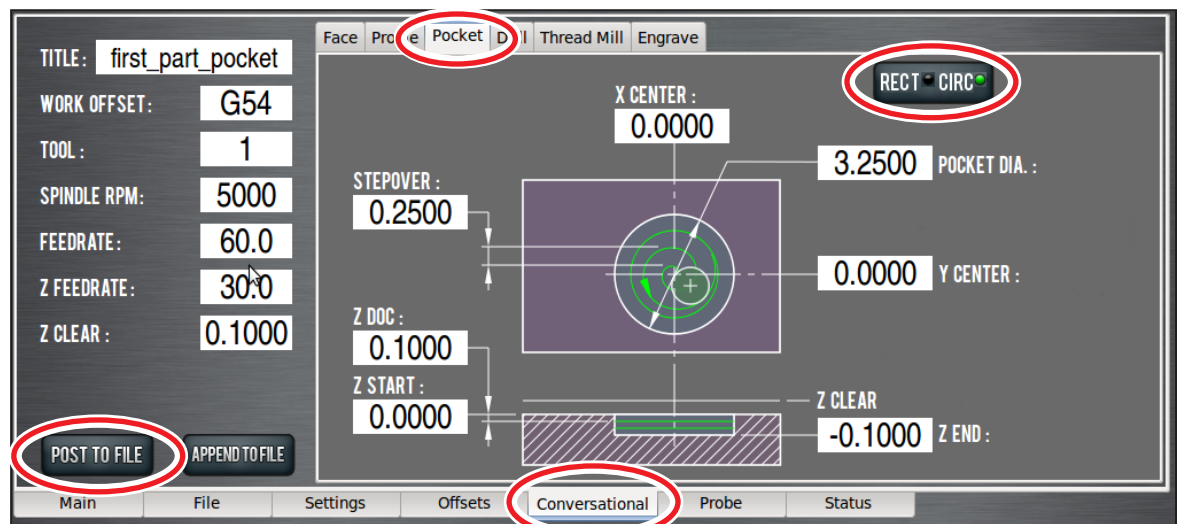
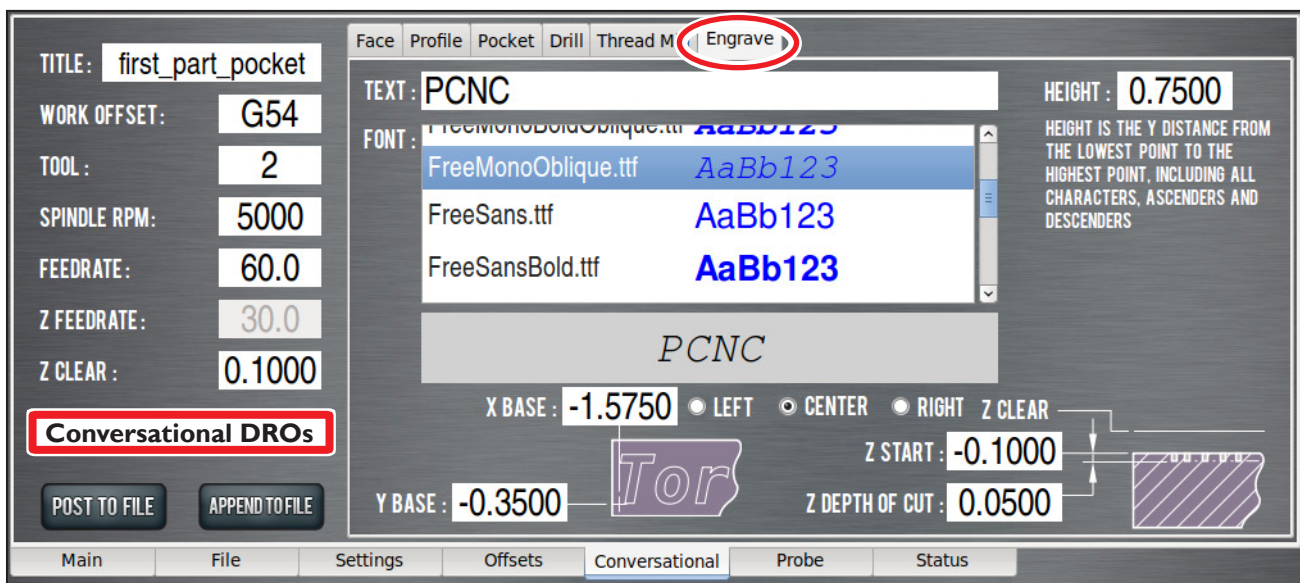

Figure 5.10
Figure 5.13
To write the code for the first operation, click the *Conversational* tab (see **Figure 5.10**). The *Conversational* screen is divided into two sections: parameters common to most operations are displayed on the left and parameters (including part geometry) that are operation specific are displayed on the right.
Click the *Pocket* tab to bring up the pocketing screen. Click the *Rect/Circ* button to bring up the circular pocket screen (see **Figure 5.10**). Use this screen to generate code to create a shallow pocket (0.1000" deep and 3.250" in diameter). The conversational DRO fields should be self-explanatory and are covered in detail in chapter 6, *PathPilot Interface*, but for the first part tutorial, enter the values seen in **Figure 5.10**.
- After the values from **Figure 5.10** are entered, click the *Post to File* button to save the G-code.
Go back to the Conversational pages and click on the *Engrave* tab (see **Figure 5.10**) and the Engrave screen opens (see **Figure 5.13**). Enter the values shown in **Figure 5.13**, *Conversational DROs*. Make sure to enter *PCNC* in the text field (see **Figure 5.13**).
1. Select the *FreeMonoOblique.ttf* font (see **Figure 5.13**) and change the tool DRO to 2 for the engraving operation.
2. Click the *Append to File* button (see **Figure 5.13**). A file chooser dialog opens that allows you to select the file to which you want to add the engraving G-code.